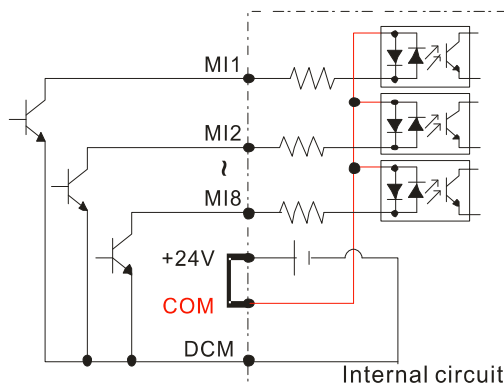
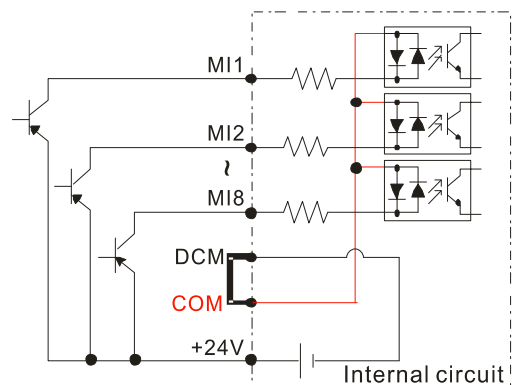

Figure 6-2
Figure 6-3
- When the photo-coupler uses internal power supply, the switch connection for Sink and Source modes shows as Figure 6-2 and Figure 6-3: MI-DCM: Sink mode, MI-+24V: Source mode.